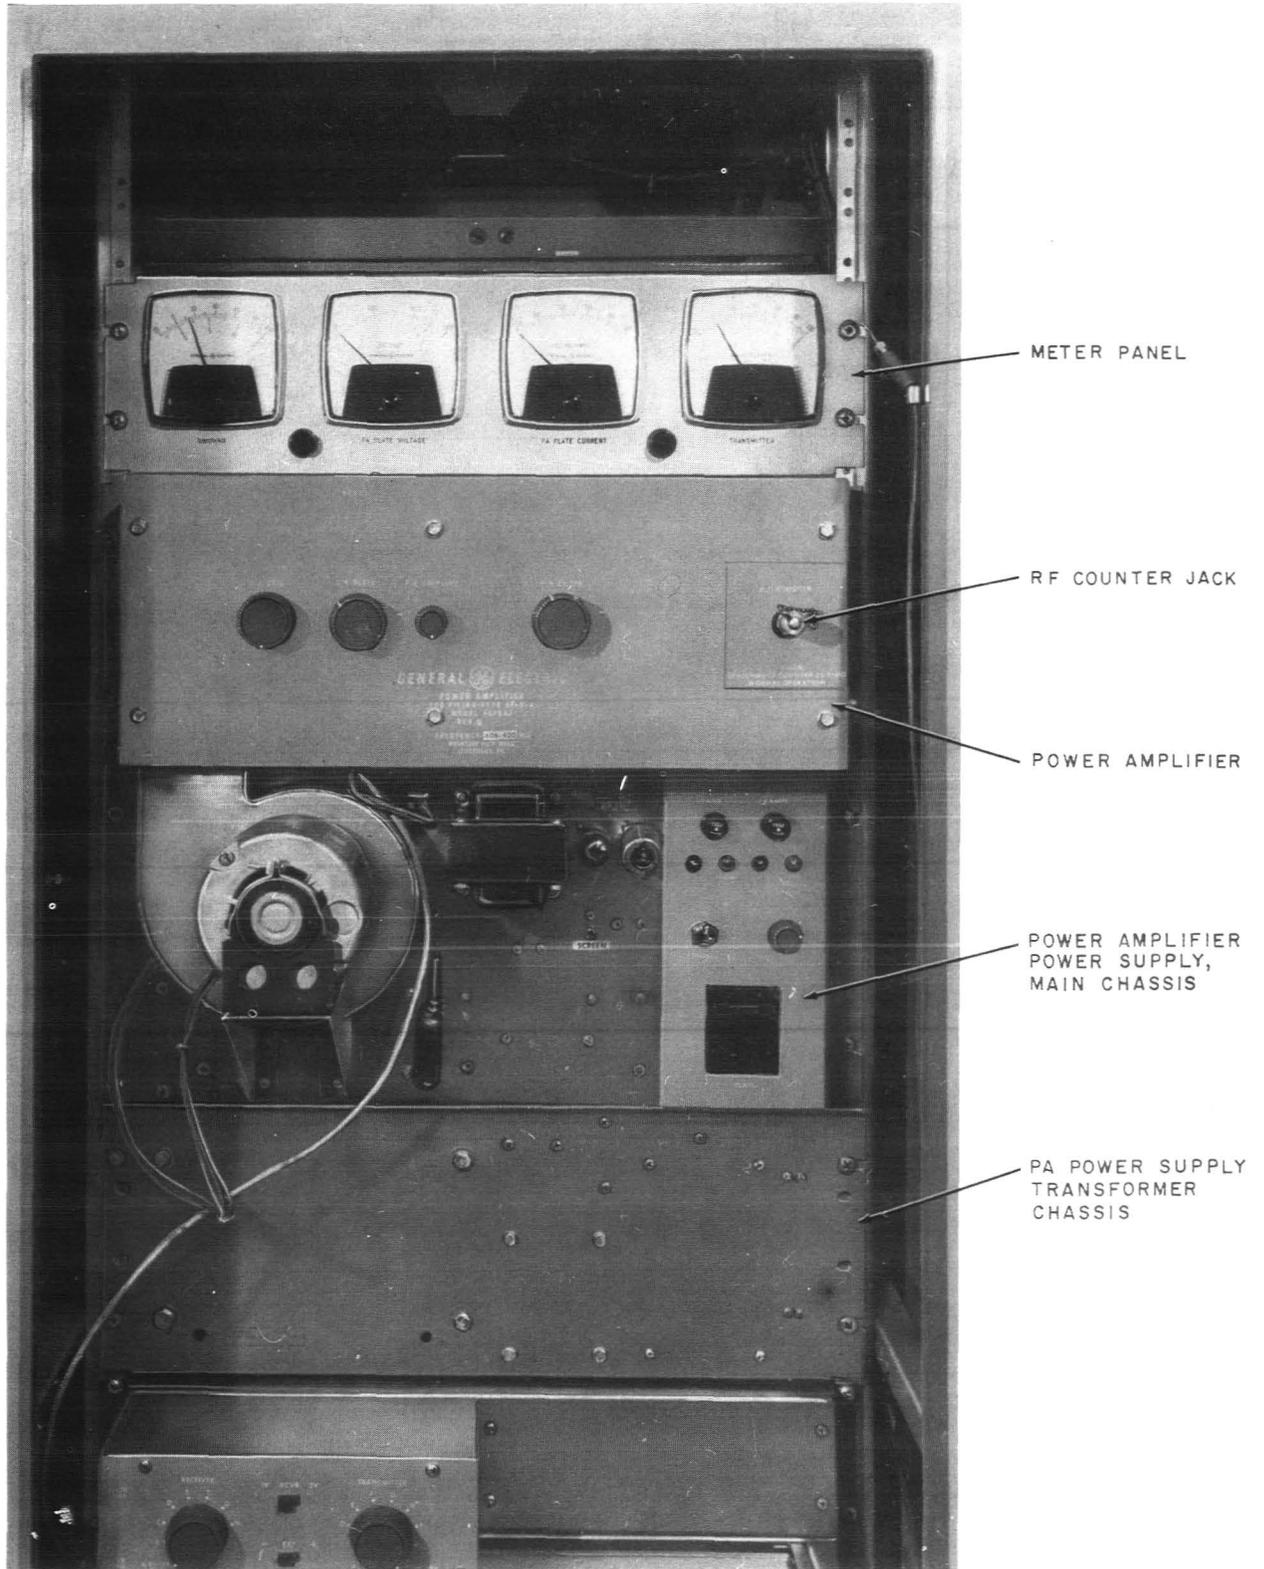

Fig. 1—Station Cabinet—Front View—Top Half
2.01 The GE station cabinet houses the units shown in Fig. 1 and 2. The units are mounted on standard 19-inch relay rack mounting brackets. The rear door of the cabinet is interlocked to protect personnel from operating voltages; no interlock is required for the front door. Cooling is provided by a blower for the PA (power amplifier) tube, a fan for the transmitter-exciter, and a blower for the entire cabinet. The cabinet is 69 inches high, 22 inches wide, and 23 inches deep. The weight is approximately 395 pounds.
3.47 The plate switch energizes the high-voltage supply through contacts of the plate relay, and also controls the PA blower. In Echo-Fox transmitters, the PA blower is also controlled by the transmitter keying relay; thus, the blower only operates if the transmitter is keyed. The high-voltage transformer, diode bridge rectifier, and filter choke are located on the transformer chassis (Fig. 1). The high-voltage supply provides a plate voltage of 2000 Vdc and a screen voltage (through a divider circuit) of 300 Vdc. The screen voltage is applied to a clamping circuit which reduces screen voltage if PA grid current is not present.